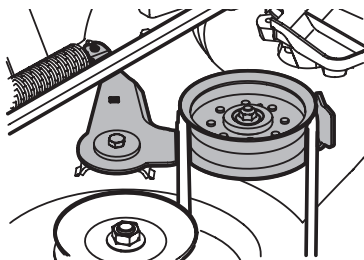

Figure 41
8. Working on the right side of the tractor, insert a 3/8" drive ratchet wrench, set to **tighten**, into square hole found on the idler bracket. See Figure 41.
9. Pivot the wrench forward to move the deck drive pulley forward. See Figure 41.